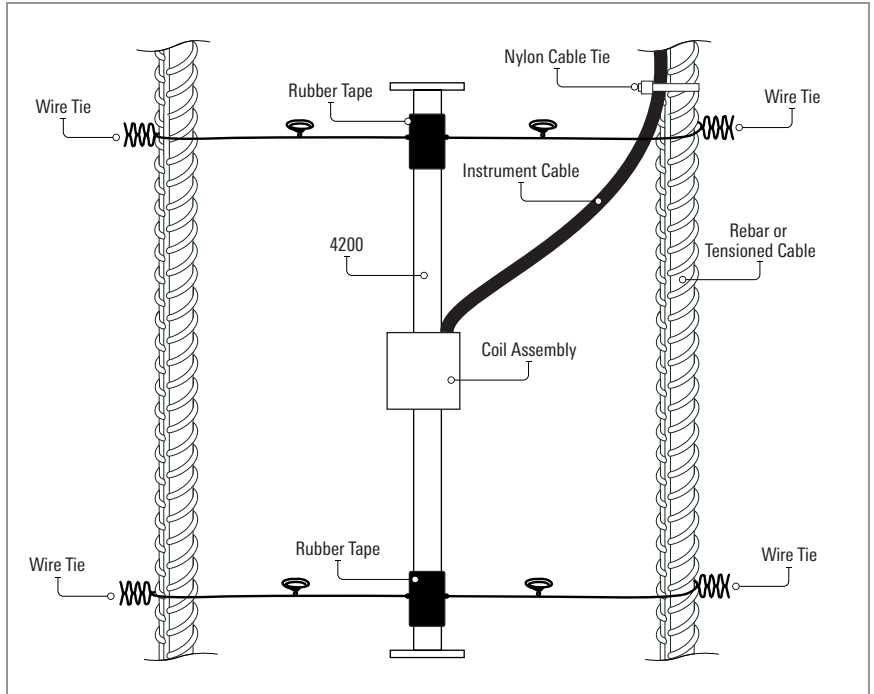

FIGURE 17: Suspending Model 4200/4200L/4200HT Strain Gauges Between Rebar
1. Wrap a layer of self-vulcanizing rubber tape 3 cm from each gauge end, as shown in Figure 17.